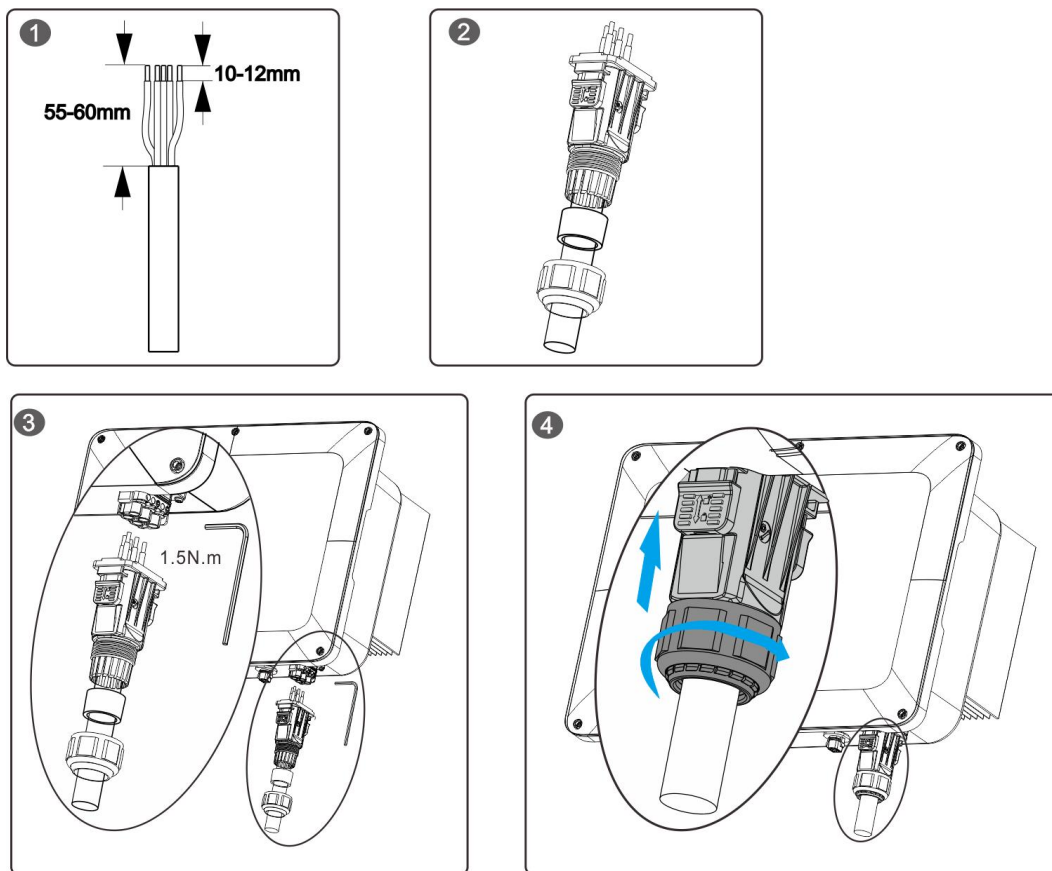

Figure 3-2 Schematic diagram of AC cable installation
- (1) Make an AC cable and strip it as shown in step ① in Figure 3-2.
- (2) The AC cables are inserted into the AC connectors in sequence.
- (3) Use a hexagonal wrench to fix the AC cable, the recommended torque is 1.5N.m.
- (4) Insert the AC connector, and pull down the buckle to lock it (as shown in step ④).